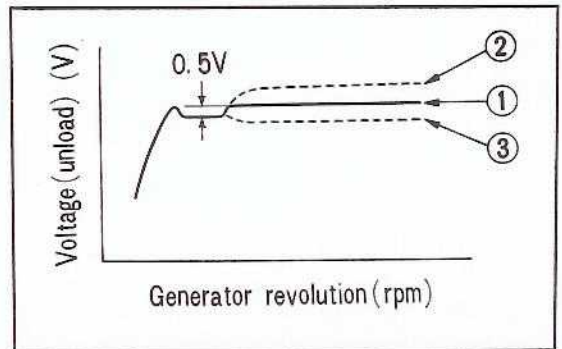

Fig. 8-13 ① Standard ③ Narrow core gap
② Adjusting screw
**Note:** There will be a 0.5V rise in voltage when the low speed contacts changes to the high speed contacts in the regulator. (Fig. 8-13)